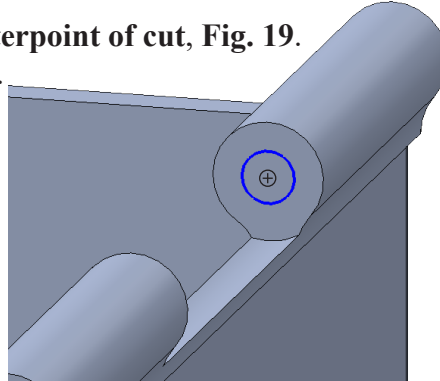
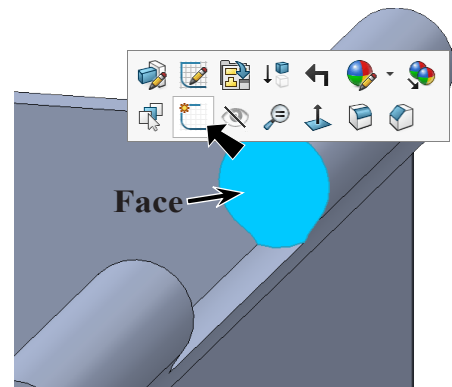

Fig. 19
Fig. 18
Step 1. Click the **inside face of hinge** and click **Sketch** on the context toolbar, Fig. 18.
Step 2. Click **Circle** (S) on the Sketch toolbar.
Step 3. Sketch **circle at centerpoint of cut**, Fig. 19. Wake up centerpoint.
Step 4. Click **Smart Dimension** (S) on the Sketch toolbar.